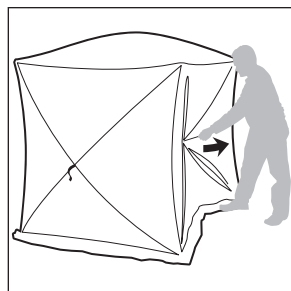

FIGURE 4
5. Proceed by walking around entire blind and pulling on each of the wall's tie-down ropes to pop out each wall until all sides are popped out. **SEE FIGURE 4.**